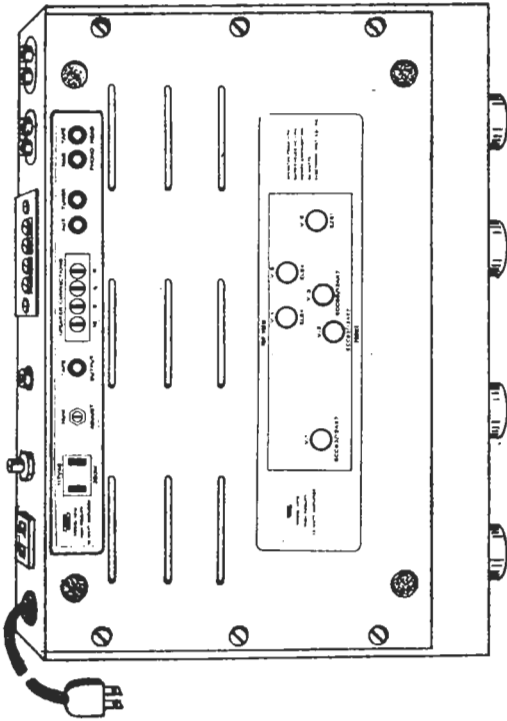

Fig. 8
1. () Fig. 8. Remove the backings from the two labels supplied and place them on the outside surface of the bottom plate as shown.